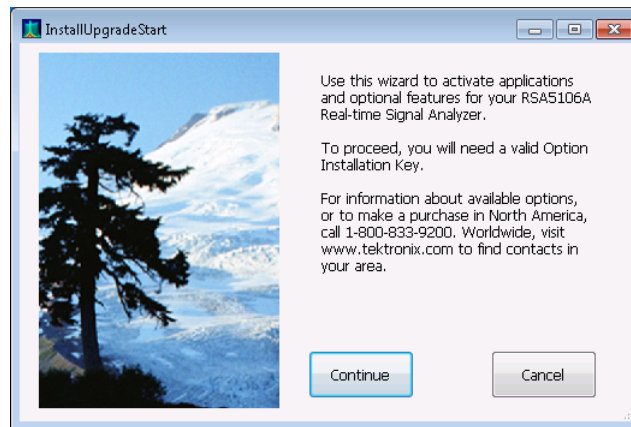

Figure 6: Starting the option upgrade
2. In the signal analyzer application, select **Tools > Install Upgrades** . The Install Upgrade wizard starts. (See Figure 6.) Click Continue.